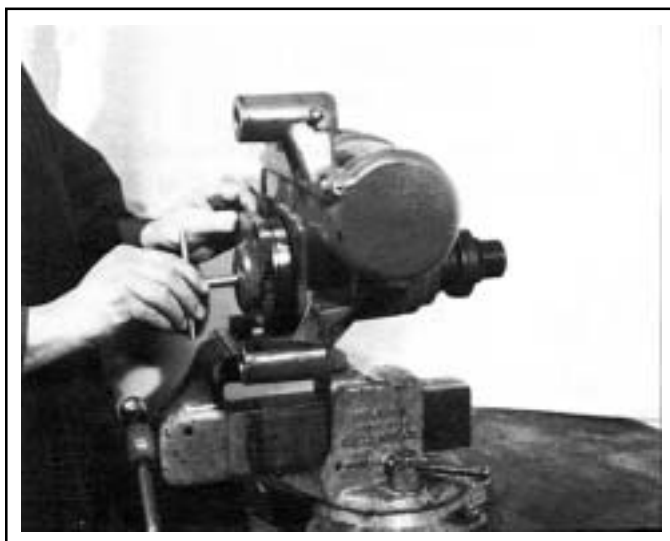

FIGURE 13
7. Using a 9mm wrench turn the head of the adjusting screw(36) clockwise to lift the side cover out of the housing. (See Figure 13)